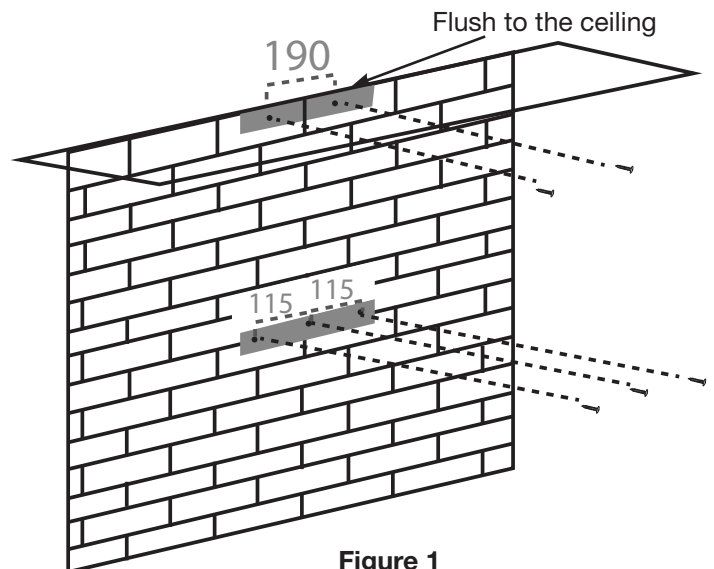

Figure 1
- The range hood will be installed on top of this bracket (see Figure 1).
- Drill 2 holes according to the size of the upper mounting bracket. The upper mounting bracket should be positioned flush with the top of the outside chimney (see Figure 1).